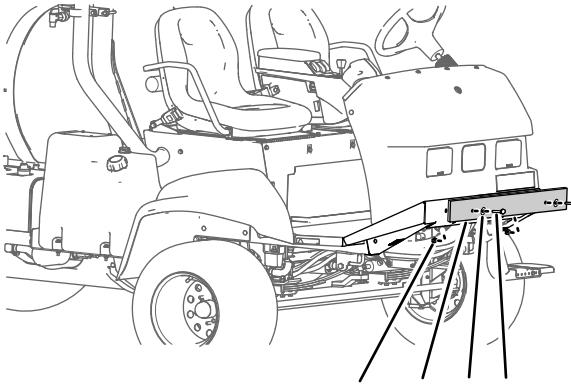

Figure 6
1. Remove the bolts, washers, and nuts that secure the shipping bumper to the front chassis plate (Figure 6).
2. Remove the shipping bumper from the machine (Figure 6).